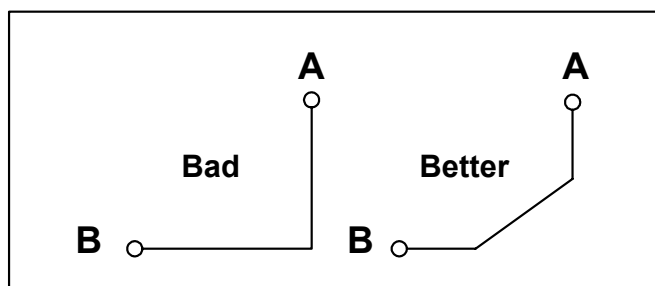

Figure 1. Signal Trace Angles
- Avoid right angle signal traces. Ninety-degree trace corners should be avoided. We recommend that the traces turn at 45° angles as shown in Figure 1. Sharp edges may add unexpected parasitic effects into the circuitry. Reducing the trace length will reduce trace inductance during quick energy bursts.
- Avoid right angle signal traces. Ninety-degree trace corners should be avoided. We recommend that the traces turn at 45° angles as shown in Figure 1, page 3. Sharp edges may add unexpected parasitic effects into the circuitry. Reducing the trace length will reduce trace inductance during quick energy bursts.